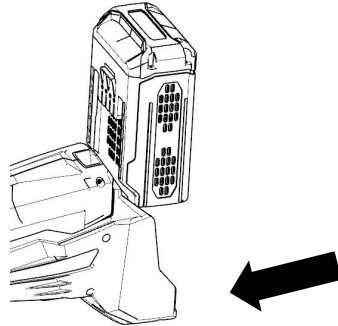

Fig .4
1. Insert the battery pack into the socket, until you hear a clear “click” sound (Fig. 4).